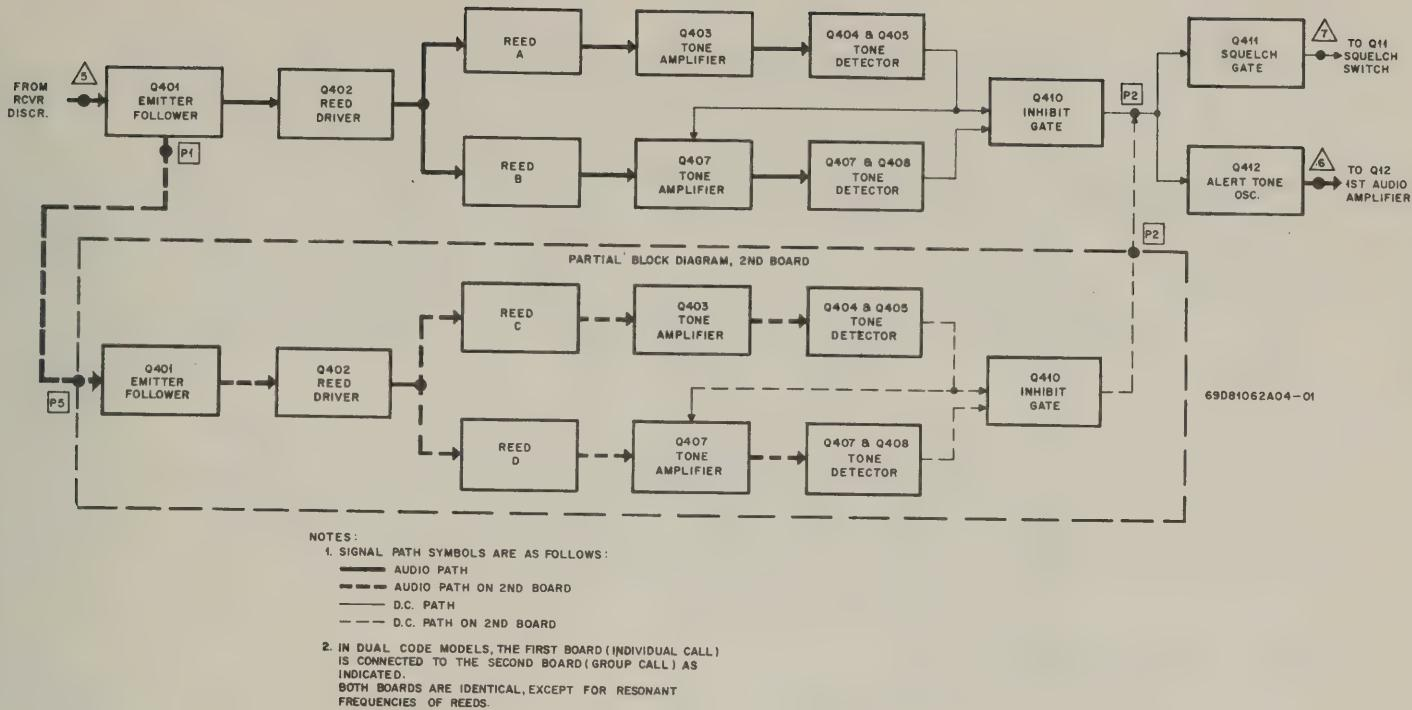

Figure 5. Selective Call Decoder Block Diagram
(5) Selective Call Decoder Refer to Figure 5 and the Selective Call Decoder Schematic Diagram
In dual code models, the reception and detection of tones C and D are identical to that of tones A and B in single-code models. Two single code boards are connected in parallel for dual-code capability (refer to Figure 5).